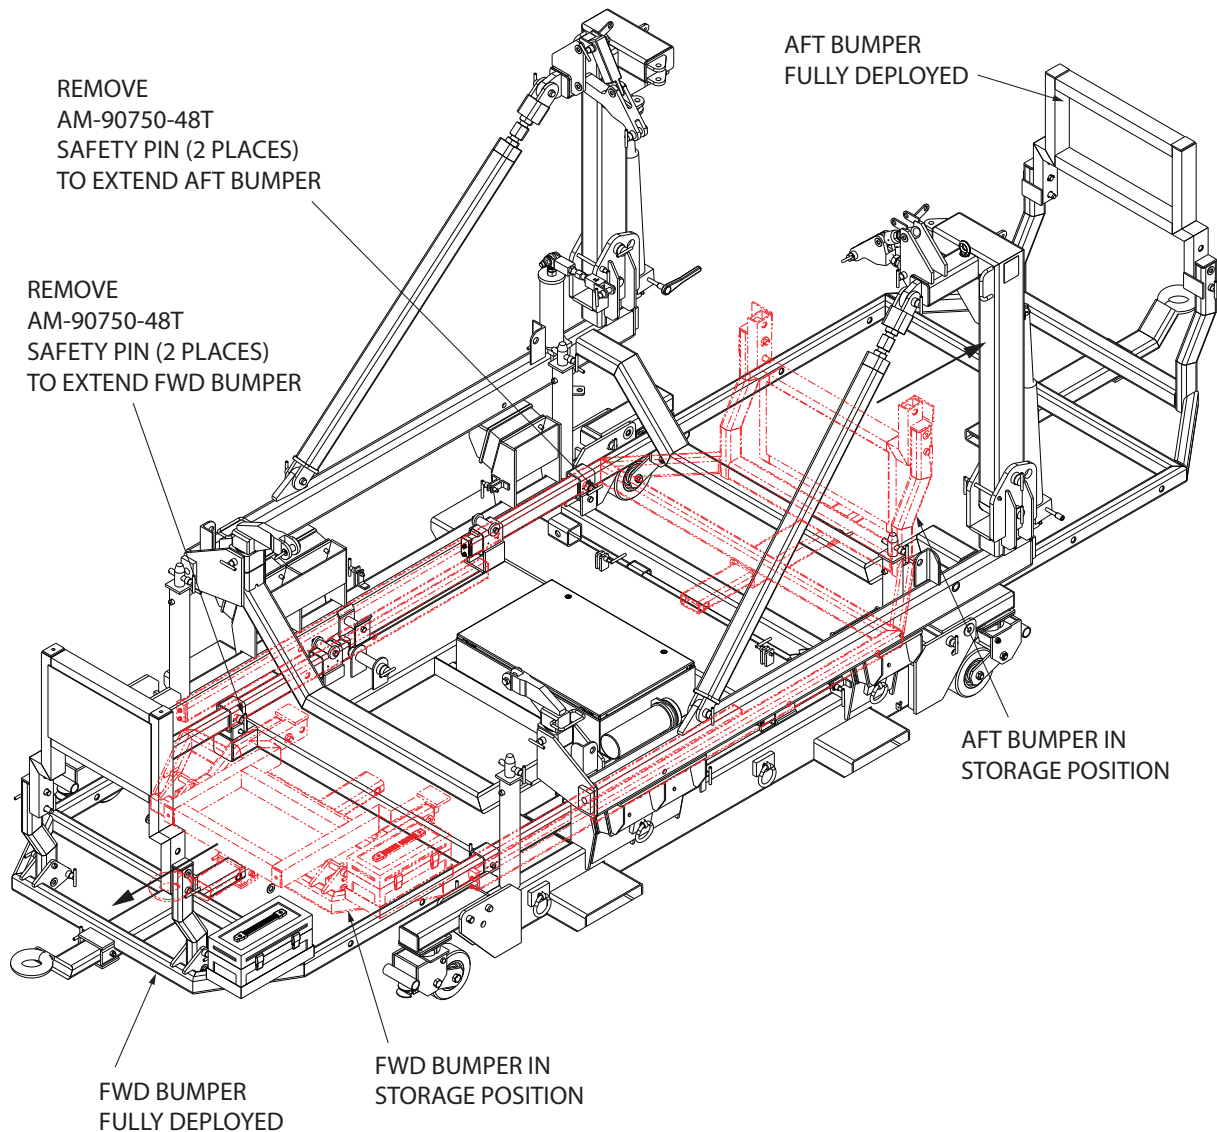

Figure 5.6-1 Bumper Deployment
5.6 Bumpers Deploying/Stowing (Figure 5.6-1)
The FWD and AFT bumpers can be fully extended from their storage position by removing four (4) AM-90750-48T safety pins (IPB Figure 3 - Item 15) as shown in Figure 5.6-1.